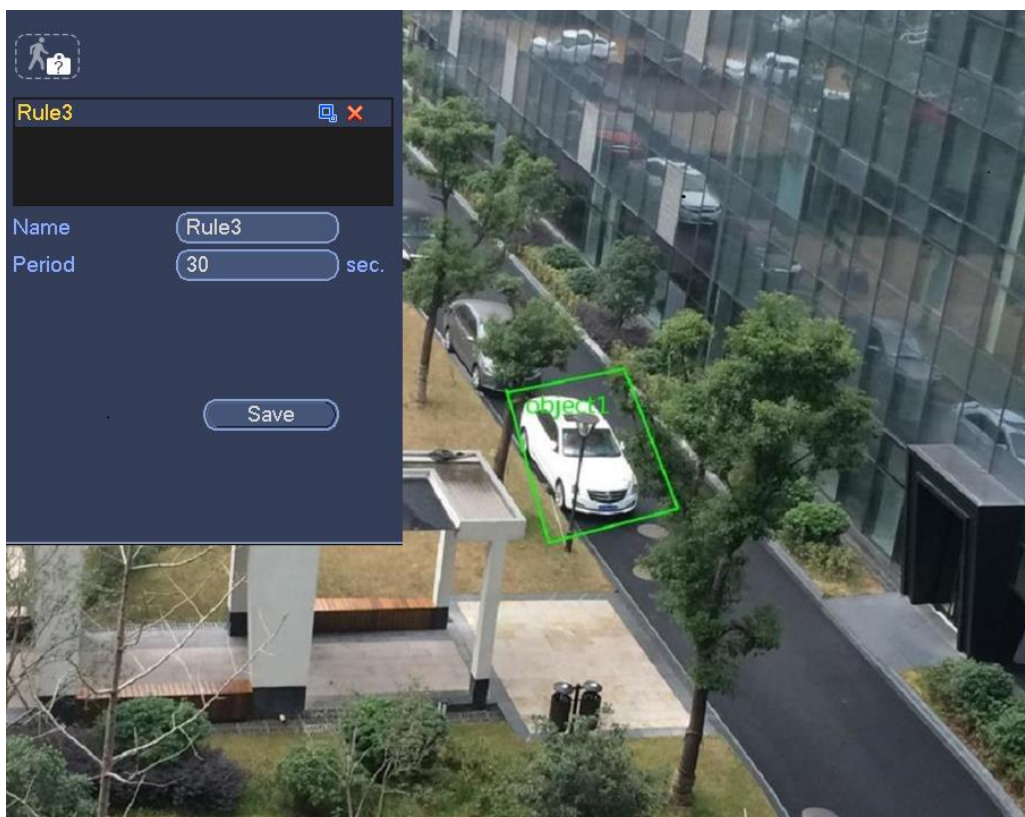

Figure 4-168
1. Click Draw button  to draw a zone. See Figure 4-168.